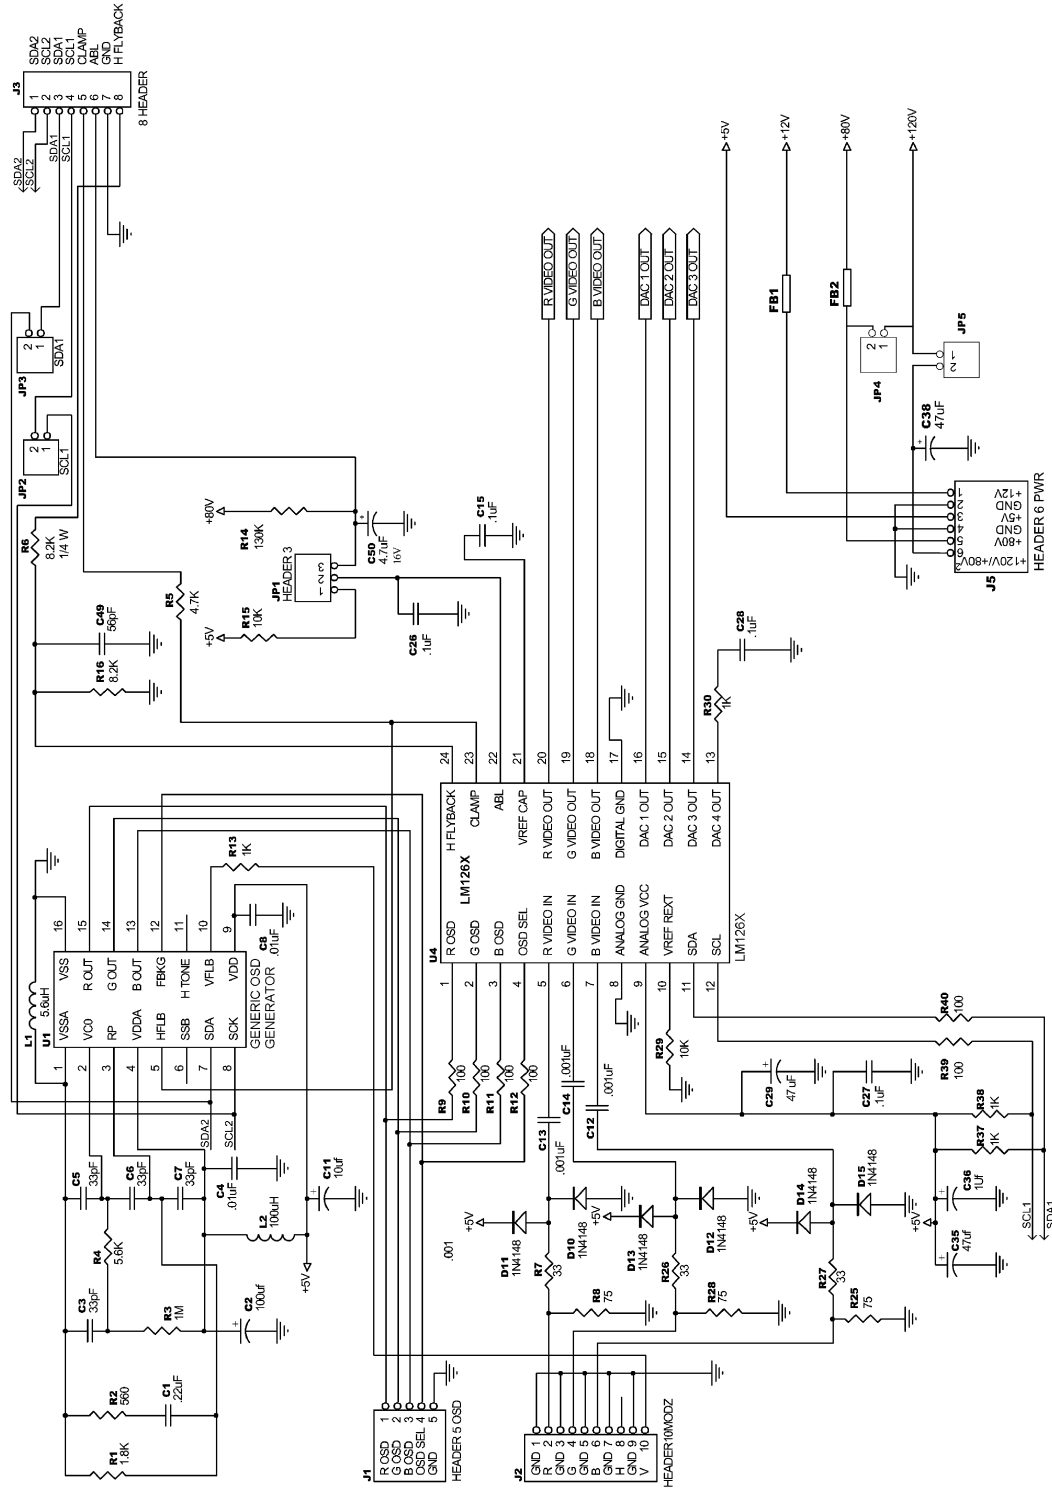

FIGURE 10. LM126X/LM246X Demonstration Board Schematic
Referring to *Figure 9*, there are three components (R1, R2 and L1) that can be adjusted to optimize the transient response of the application circuit. Increasing the values of R1 and R2 will slow the circuit down while decreasing overshoot. Increasing the value of L1 will speed up the circuit as well as increase overshoot. It is very important to use inductors with very high self-resonant frequencies, preferably above 300 MHz. Ferrite core inductors from J.W. Miller Magnetics (part # 78FR-k) were used for optimizing the performance of the device in the NSC application board. The values shown in *Figure 10* and *Figure 11* can be used as a good starting point for the evaluation of the LM2463. Using a variable resistor for R1 will simplify finding the value needed for optimum performance in a given application. Once the optimum value is determined, the variable resistor can be replaced with a fixed value.
A typical application of the LM2463 is shown in *Figure 10* and *Figure 11*. Used in conjunction with an LM1263, a complete video channel from monitor input to CRT cathode can be achieved. Performance is ideal for 1600 x 1200 resolution displays with pixel clock frequencies up to 180 MHz. *Figure 10* and *Figure 11* are the schematic for the NSC demonstration board that can be used to evaluate the LM126X/2463 combination in a monitor.
*Figure 12* shows the routing and component placement on the NSC LM126X/2463 demonstration board. The schematic of the board is shown in *Figure 10* and *Figure 11*. This board